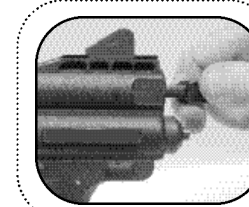

FIGURE 1 PULL BACK
4. Pull the cocking knob straight back from the rear of the marker until the cocking mechanism locks back in the cocked position. Push cocking knob back into original position. Figures 1 and 2.